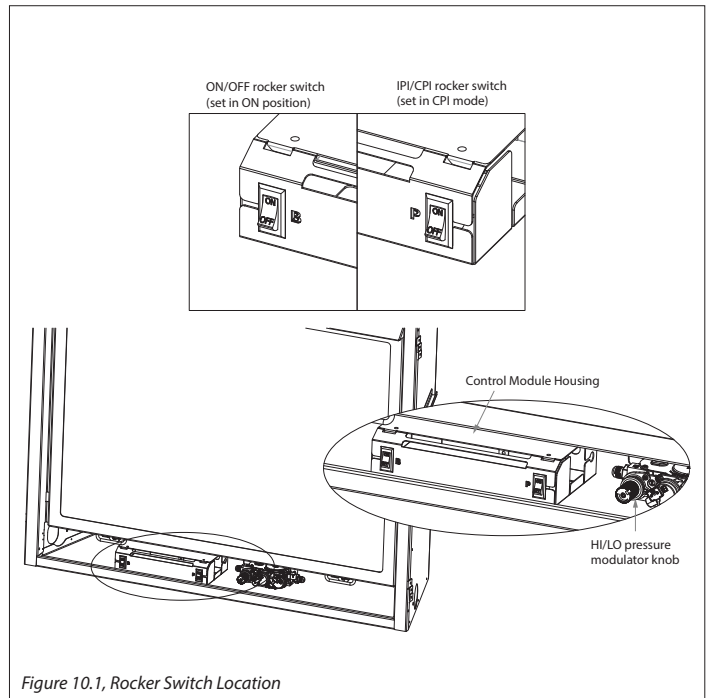

Figure 10.1, Rocker Switch Location
There are (2) rocker switches located on the gas valve housing in the control compartment. You will need to remove the bottom frame to access this. The main burner rocker switch is marked 'B' and the IPI/CPI pilot rocker switch is marked 'P'. See Figure 10.1.
10.1.1.1 7 Day Time-out installations (LE)
NOTE: Figure 10.1 shows the CPI/IPI mode control switch (pilot rocker switch, marked 'P') is already in the ON position. It has first to be turned OFF, then back ON, to re-activate the CPI mode together with the the 7 day Time-out counter.